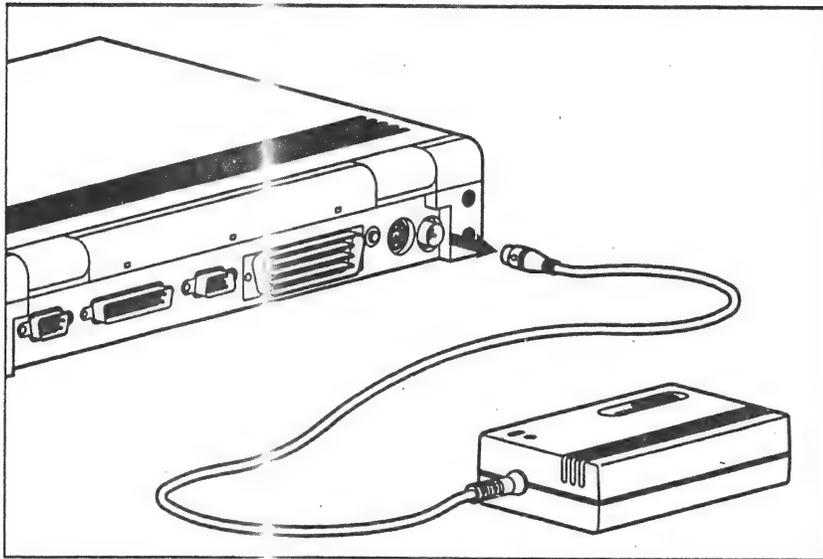

Figure 2-2. Disconnecting the AC Power
3. Disconnect the AC power cord from the AC outlet, then from the system unit (Figure 2-2)